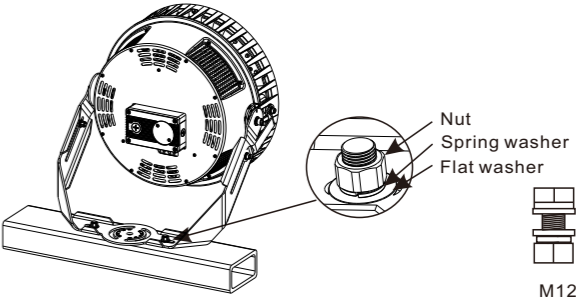

Figure 7
- 3. Install the luminaire on the crossbar and secure it with nuts, spring washers and flat washers (Figure 7).